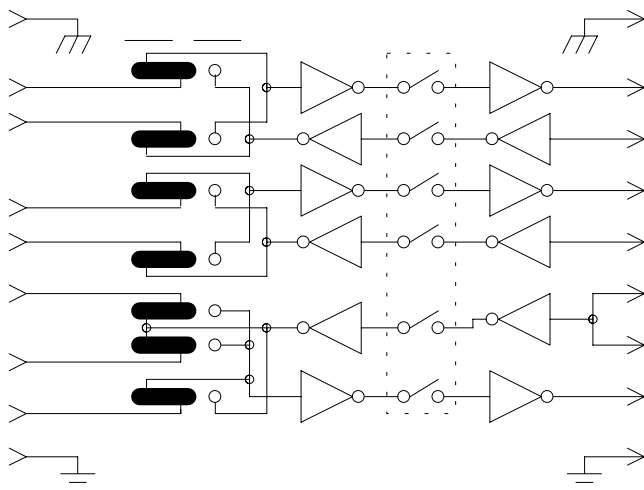

Figure 5. Simplified RS-232 Schematic
* Pins 6 & 8 are tied together inside the 232XSSD4 and share the same output. Refer to Figure 5.
* Pins 6 & 8 are tied together inside the 232XSSD4 and share the same input. Refer to Figure 5.
*Pins 6 & 8 are tied together inside the 232XSSD4 and share the same input. Refer to Figure 5.
All eight RS-232 slave ports will be wired as DTE ports. Refer to Table 4 for pin out, signal name, and signal direction information. Also, refer to Figure 5 for a simplified schematic showing the relationship between the Master port and any RS-232 port "A-H". Refer to Appendix B for cable charts.